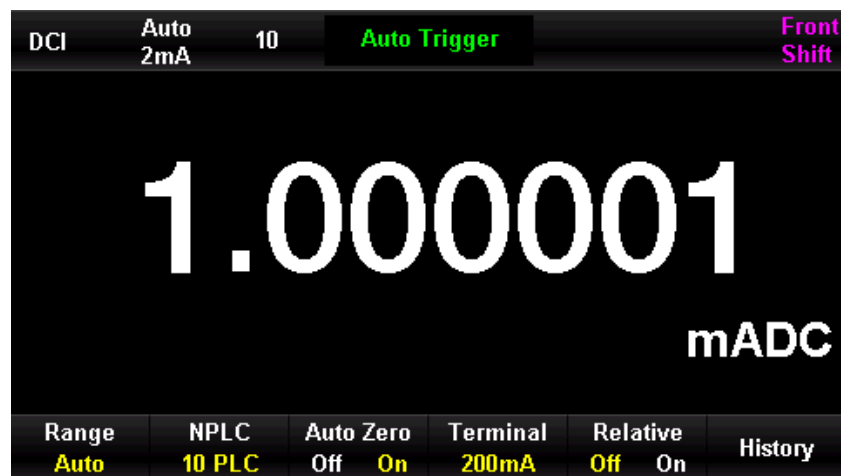

Figure 0–12 DC Current Measurement Menu
1. Press the  key on the front panel, and then press  key to enter the DC current measurement menu, as shown in Figure 0–12.
2. As shown in Figure 0–11, connect the multimeter to the test circuit. When the current is small, the red test lead is connected to the mA input terminal and the black test lead is connected to the Input-LO input terminal. When the current is large, the red test lead is connected to the A input terminal and the black test lead is connected to the Input-LO input terminal.